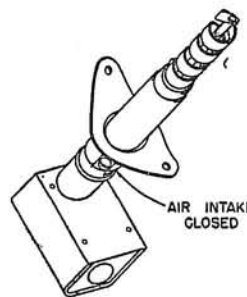

Fig. 2.
1. *Normal Installations with Average Stack Temperatures:* Completely close air intake slot in helix tube with stack flange collar (see Fig. 2).